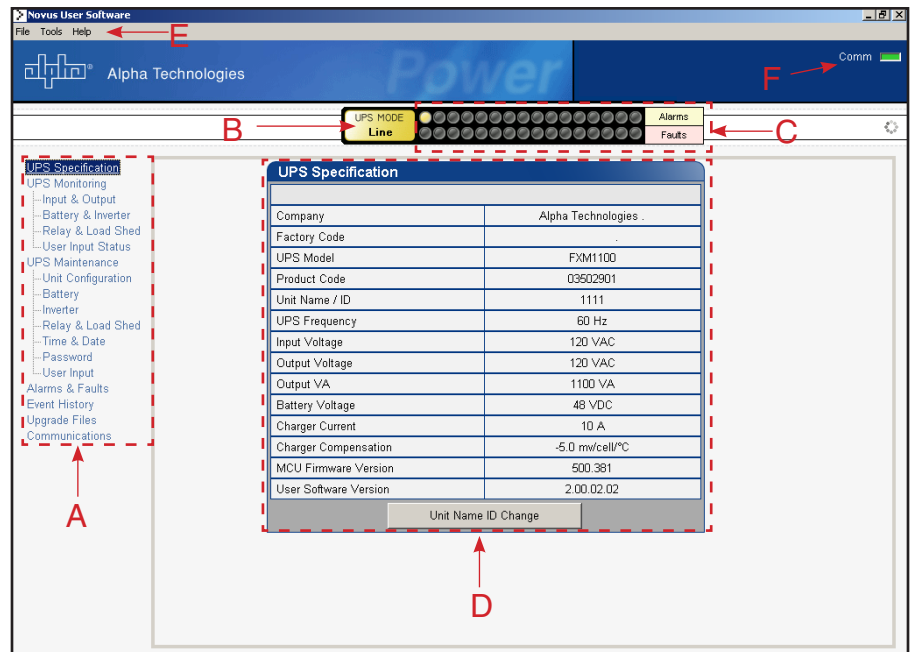

Figure 7.17 – Novus User Software (UPS Specification Screen shown)
The Novus User Software Graphical User Interface (GUI) provides Web or Windows® like computer communications with the FXM. The screen and its features are shown below in Figure 7.17. With it you can monitor, control and set various parameters like the date and time, when the weekly self test is run, change the relay configurations, etc. The Fault or Alarm indicators show you if the FXM has a malfunction and what it is. Descriptions of all the screens and their functions are given in “Operation” on page 59.
- a. Click on the screen's Online Indicator (See Figure 7.17), or